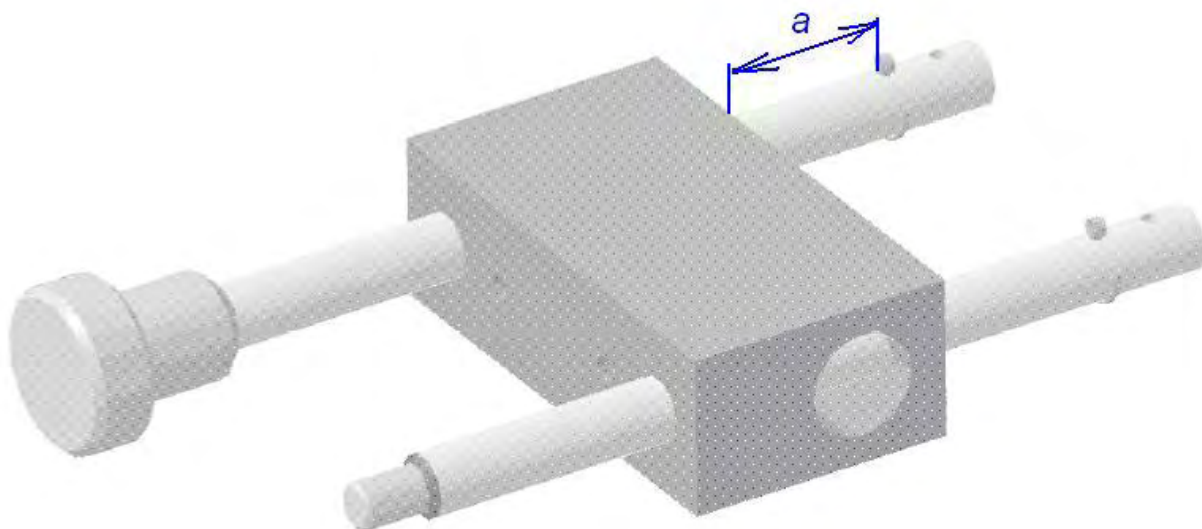

Fig. 6
4. Check the Cabin heater choke KA7040200 for operating according to the item 2. If positive, continue from item 7.
- c. Proceed to item 4.
- a. Mark on the handle length it can be pulled out more (distance from the bracket to the cotter-pin in the handle). Fig. 6.